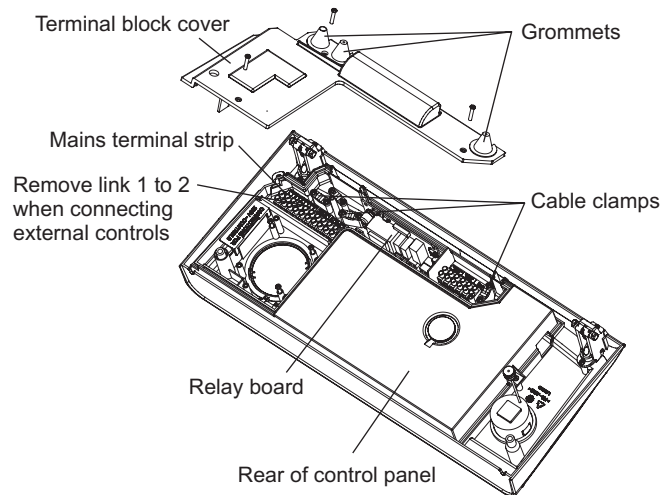

Fig. 4.14
4.10 CONNECT THE MAINS SUPPLY - Fig. 4.14
Remove the three screws securing the terminal block cover from the back of the control box (see Fig. 4.14). Pass the mains supply cable through the cable clamp and connect as follows:- Brown to L, Blue to N and Green/Yellow to $\perp$. Ensure correct polarity.